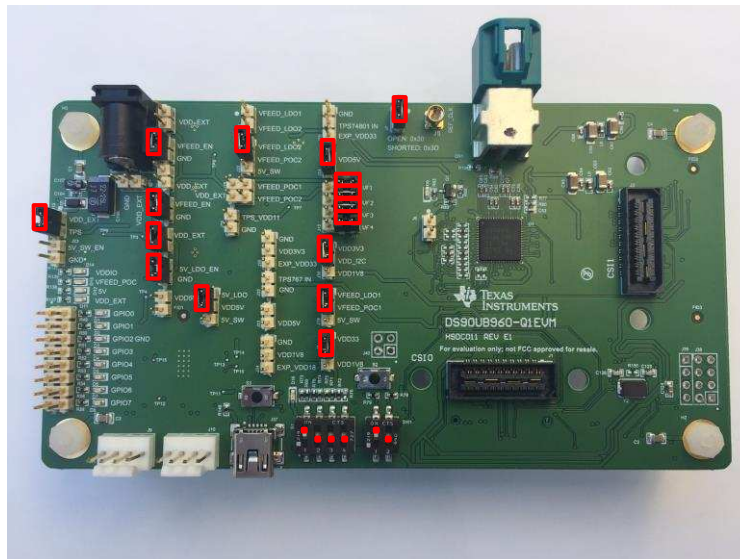

Figure 4. DS90UB960-Q1EVM Jumper and Switch Configuration
1. Ensure all jumpers and switches are placed and configured as shown in Figure 4